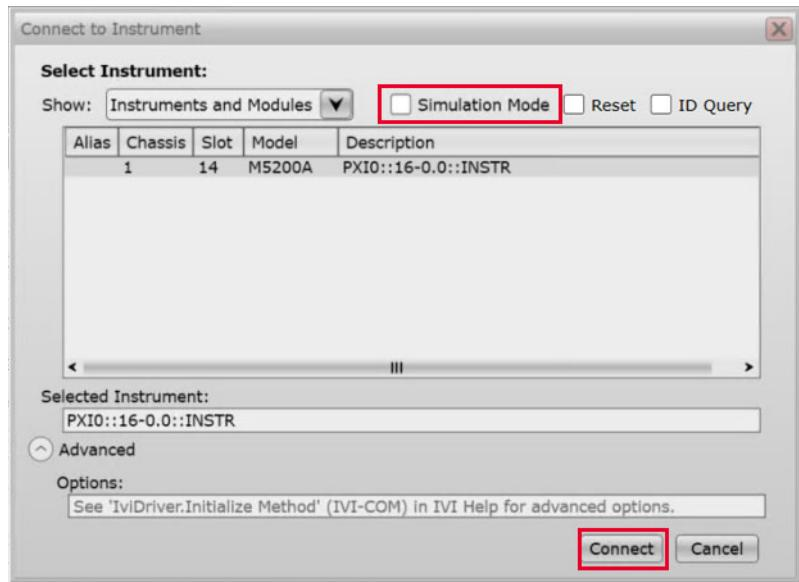

Figure 34 Connect to Instrument with "Simulation Mode" disabled
- 'Simulation mode' disabled—This is the active mode of SFP operation and is available when the **Simulation Mode** check box is manually cleared. The **Simulate** button is replaced with the **Connect** button on the **Connect to Instrument** window, as shown in Figure 34. In this mode, only the active modules are displayed along with the respective chassis number, slot number and VISA address.